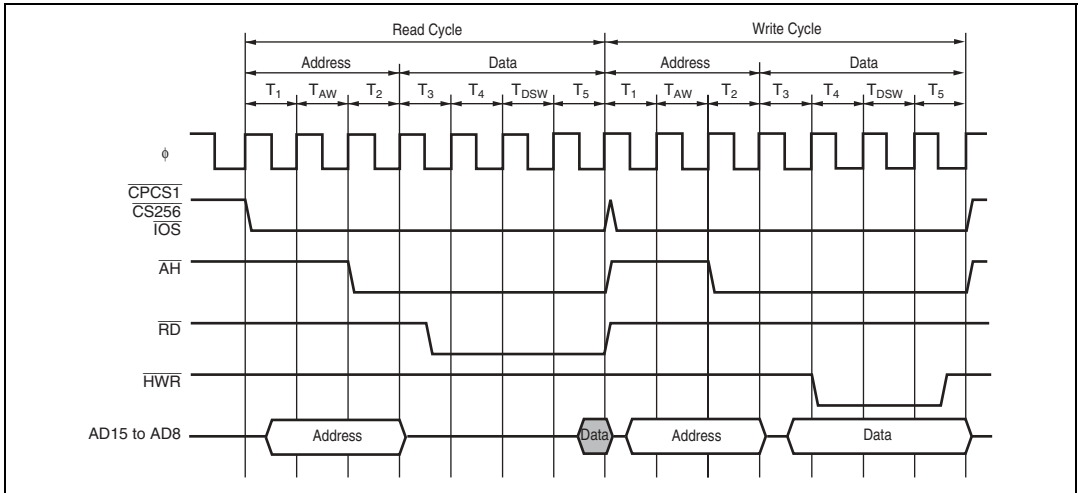

Figure 6.15 Bus Timing for 8-Bit, 3-State Access Space
(2) 8-Bit, 3-State Data Access Space: Figure 6.15 shows the bus timing for an 8-bit, 3-state access space. When an 8-bit access space is accessed, the upper half (AD15 to AD8) of the data bus is used. Wait states can be inserted.